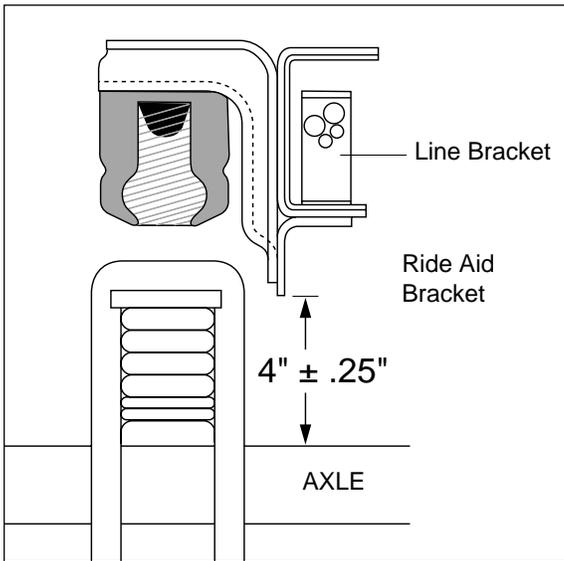

Figure 2
1. Jack up rear of vehicle or raise on hoist. Place safety jack stands under axle and adjust so that the axle to ride aid bracket distance is  $4" \pm .25"$ . See Figure 2. This distance will place the vehicle at normal ride height.